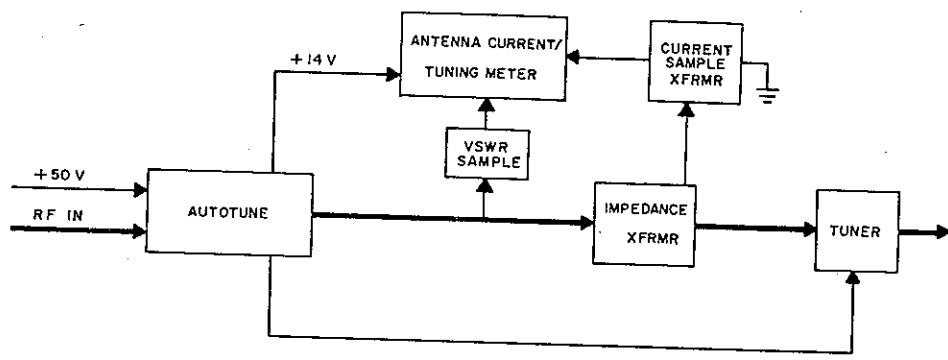

FIGURE 3-1
3. FUNCTIONAL DESCRIPTION: PC-1000. Figure 3-1 is a block diagram of the PC-1000 Antenna Coupler.